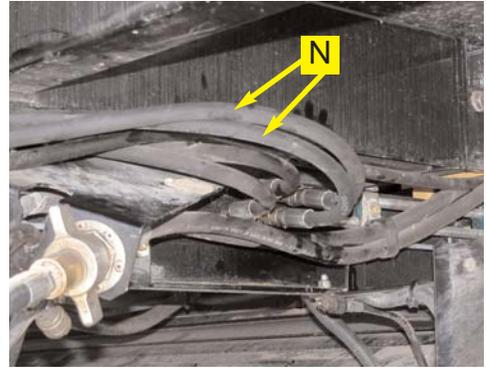

Figure 7a. Installed steering hoses at run tees.
- a. Connect the hydraulic steering hoses (N) between the **A** and **B** ports on the Automated Steering Block and the branches on the steering run tees. (Figure 7a, 7b, and 7c.)